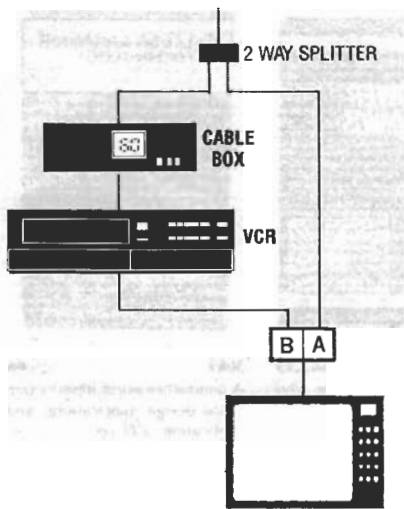

FIG. 1—YOU CAN RECORD a scrambled show while watching an unscrambled one with this setup. Your TV must be cable-ready to do so.
- Figure 1 shows a setup in which the incoming television signal is first put through a splitter that outputs two identical signals attenuated between 2–4 dB. (Even though the attenuation is undesirable, it can't be helped.) One signal is fed into the cable box, where it's re-modulated to a TV carrier frequency (usually channel 3), and then routed to the VCR that must be tuned to the same channel. The output of the VCR is then fed to the B input. The other splitter output is fed directly into the A input.